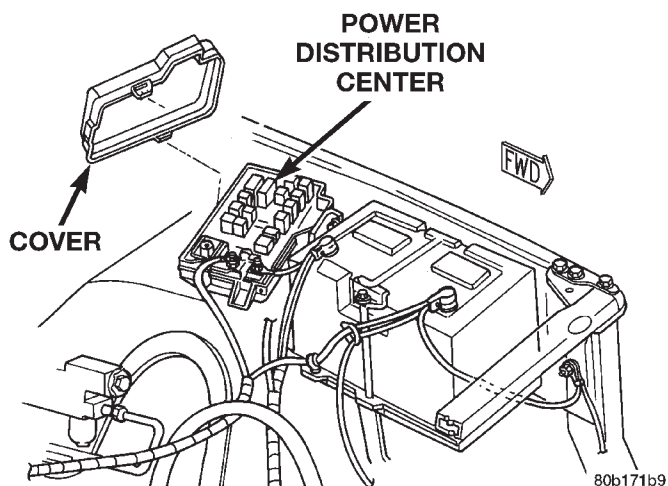

Fig. 5 Power Distribution Center
- (1) Disconnect and isolate the battery negative cable.
- (2) Remove the cover from the Power Distribution Center (PDC) (Fig. 5).
- (3) Refer to the label on the PDC for headlamp (or security) relay identification and location.
- (4) Unplug the headlamp relay from the PDC.
- (5) Install the headlamp relay by aligning the relay terminals with the cavities in the PDC and pushing the relay firmly into place.
- (6) Install the PDC cover.
- (7) Connect the battery negative cable.
- (8) Test the relay operation.